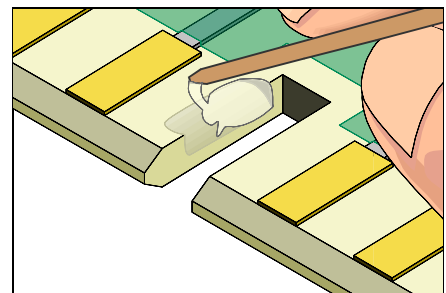

Figure 2: Apply epoxy to the edges of the key slot using a mixing stick sharpened at the end.
6. Apply a small amount of epoxy to the edges of the slot. A mixing stick sharpened at the end may be used. (See Figure. 2).